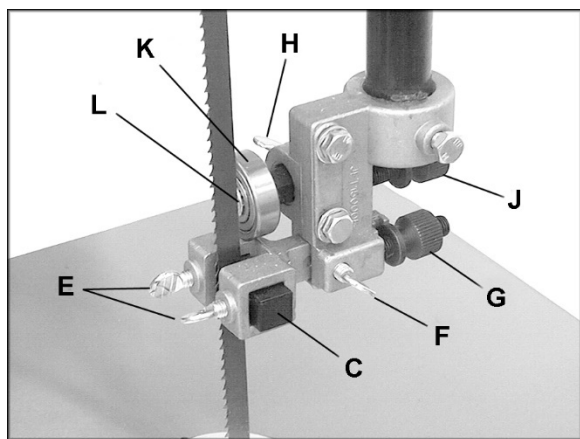

Figure 31
3. Loosen thumb screws (E, Figure 31) and move guide blocks (C, Figure 31) as close to the blade as possible without pinching it.
4. Tighten thumb screws (E, Figure 31).
5. Loosen thumb screw (F, Figure 31) and turn knurled knob (G, Figure 31) to move the guide block bracket in or out until the front
6. Tighten thumb screw (F, Figure 31).
7. The blade support bearing (K, Figure 31) should be adjusted so that the back edge of the blade overlaps the front face of the ball bearing approximately  $\frac{1}{8}$ ". To change position of the bearing, remove screw (L, Figure 31), and bearing (K, Figure 31). Loosen thumb screw (H, Figure 31) and back off knurled knob (J, Figure 31) completely to remove the bearing shaft.
8. Notice the bearing holder on the shaft is eccentric. Index the bearing shaft to another position and slide it back in, making sure the flange on the thumb screw (H, Figure 31) properly seats into the groove of the bearing shaft. Re-install the bearing and the screw. Examine the overlap between the bearing face and the blade. Change the position of the bearing shaft until the overlap is approximately  $\frac{1}{8}$ ".
9. With the thumb screw (H, Figure 31) still loosened, adjust the distance from bearing to blade. Turn knurled knob (J, Figure 31) to move the support bearing (K, Figure 31) in or out until the bearing is  $\frac{1}{64}$ " behind the blade. (NOTE: To set this distance quickly, you can place a dollar bill or piece of paper between support bearing and back of blade.)
10. Tighten thumb screw (H, Figure 31).